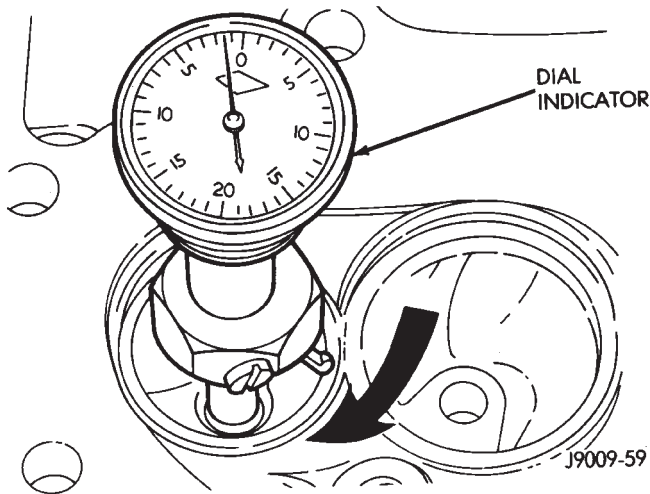

Fig. 67 Measurement of Valve Seat Runout
(2) Use tapered stones to obtain the specified seat width when required.
(3) Control valve seat runout to a maximum of 0.0635 mm (0.0025 in.)— (Fig. 67).